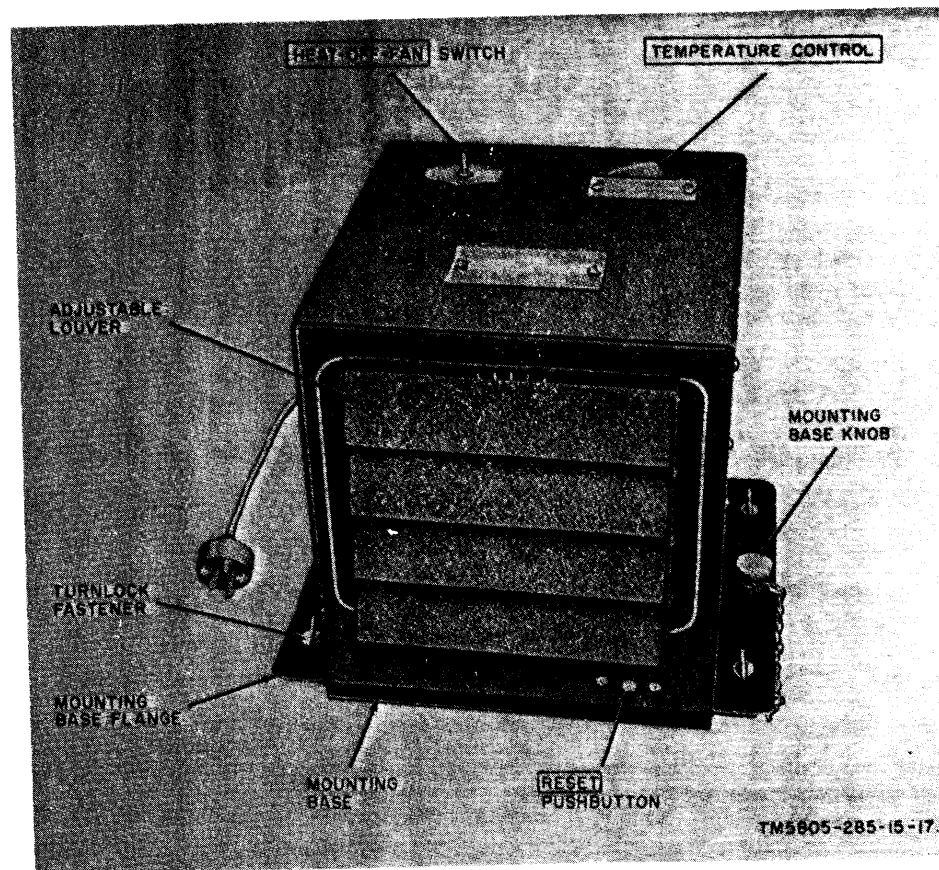

Figure 1-7. Electric heater.
f. *Electric Heaters*. Electric heaters (fig. 1-7) are provided in each van. The heaters contain a 1.5-kilowatt heating element and a fan for warm air circulation. Controls for heat regulation are on the top of the heater. The heaters can be removed from their transit mounting bases and positioned near any convenient HEATER power receptacle.